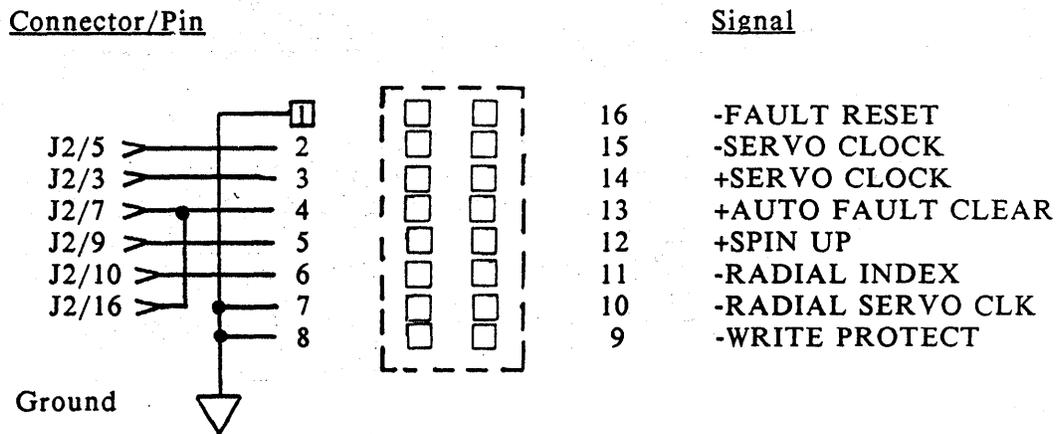

Figure 6-5. J13 Option Settings
6.3.3 Write Protect. Grounding J13-9 with a jumper to J13-8 will inhibit writing and protect all previously written data by causing WRITE FAULT if WRITE GATE is activated. (See Figure 6-5.) J13 has sockets flush with the PCB on 0.1 in. centers and 0.3 in. spacing to accept low profile (<.20 in. high) DIP jumpers or wire jumpers.